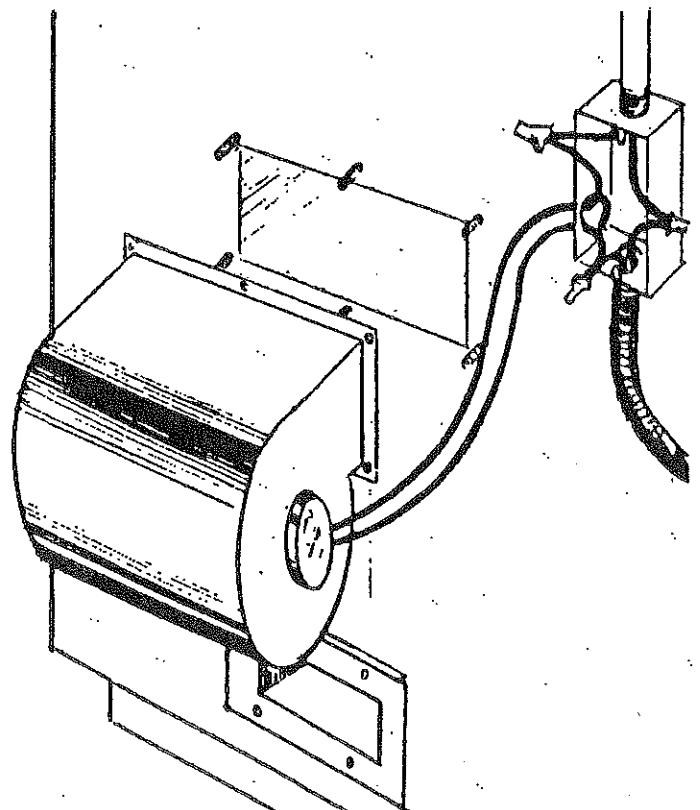

figure 3
4. Install the blower assembly to the back of the unit as shown in figure 3. See figure 16 for typical hot air hookup.